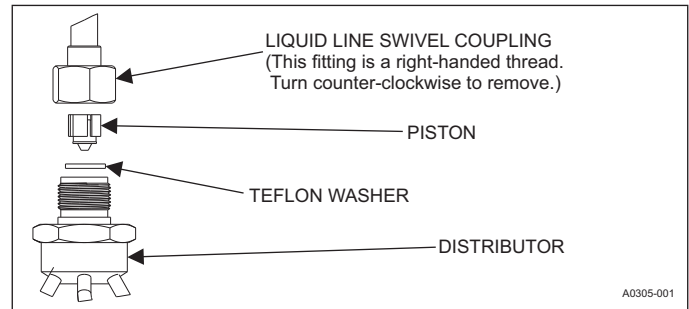

FIGURE 9: Piston Installation
6. Install required size piston into the distributor. Refer to supplied Tabular Data Sheet for specific piston size and indoor coil match up. Refer to Figure 9.
7. Verify that the Teflon washer is still in place in the distributor opening. Refer to Figure 9.